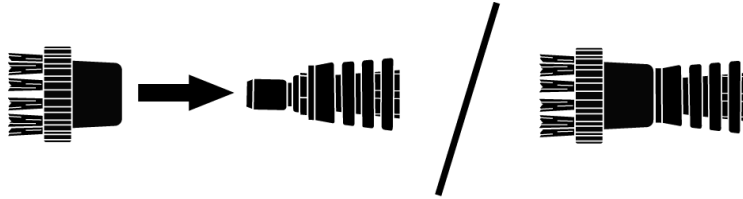

FIGURE 10
1. Align Utility Brush with Steam Jet Nozzle as shown (FIGURE 10), and press it firmly on. **MAKE SURE TO PRESS IT ON COMPLETELY.** Note that hexagonal hole inside Utility Brush must align correctly with hexagon on tip of Steam Jet Nozzle. It may be necessary to rotate Brush until it fits correctly.